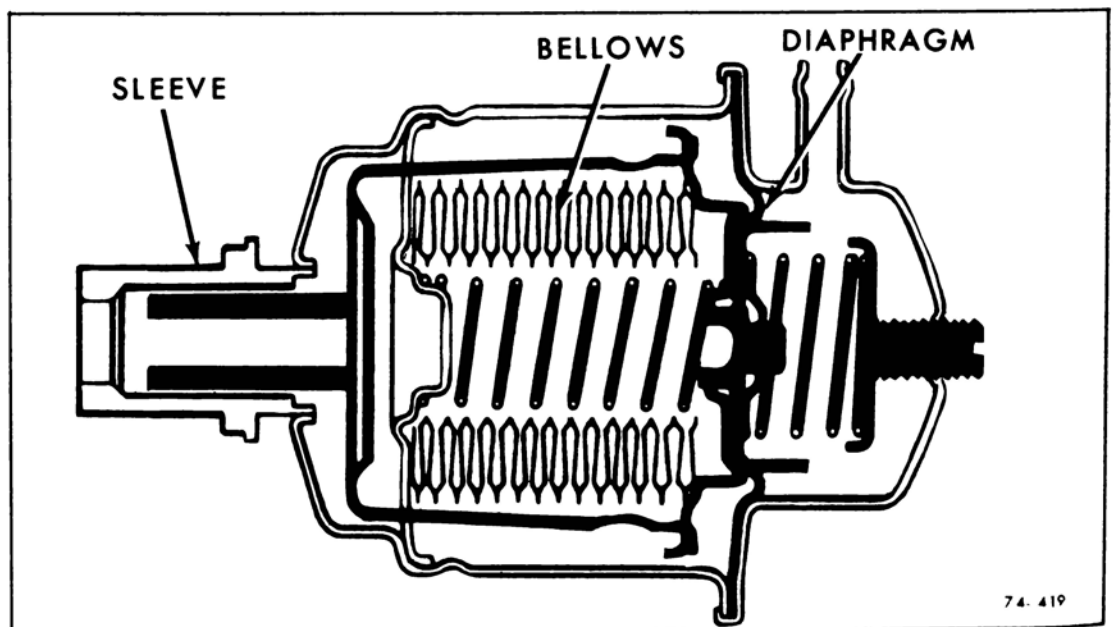

Figure 74-361—Vacuum Modulator Assembly
The vacuum modulator, See Figure 74-361, has three areas to be checked. If any one of the three (3) areas fail to pass the prescribed checks, the modulator must be replaced.